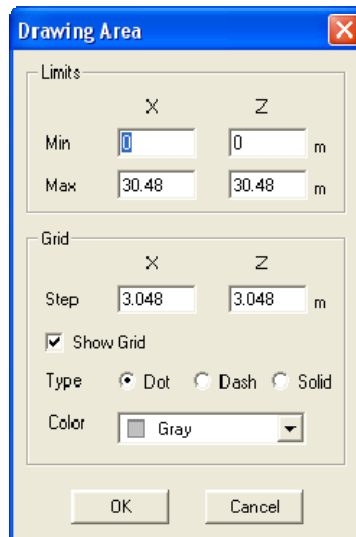

Figure 6-2 Drawing Area dialog box
- From the Options menu, choose Drawing Area. The dialog box of Figure 6-2 appears.